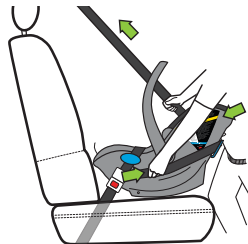

Figure 70
- Use your body to push and wiggle the Carrier into the vehicle seat back while pulling shoulder belt to remove all slack, as shown in **Figure 70**.